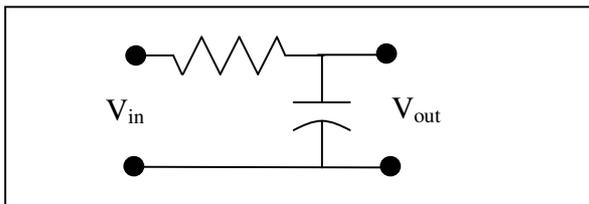
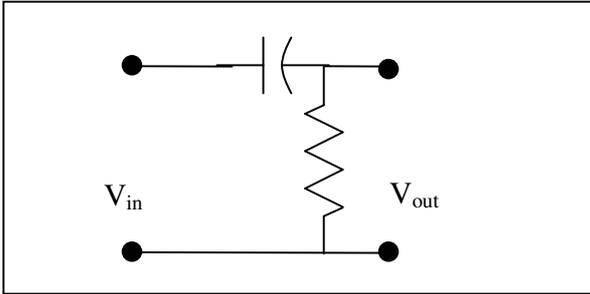

Figure 4 RC Circuit
Figure 5 RC Circuit
A simple RC circuit can is down in Figure 4. Using the complex impedance approach the output voltage can be calculated as a function of the frequency and the input voltage.
1. Use the complex impedance approach to calculate the frequency response of the RC circuit shown in Figure 5.
2. Compare the frequency response characteristics of the RC circuit from Figure 4 and that of Figure 5. Describe these circuits using the terms: low pass filter, high pass filter or band pass filter.
2. Build the RC circuit shown in Figure 4, using one of the unmarked capacitors and your choice of resistor.